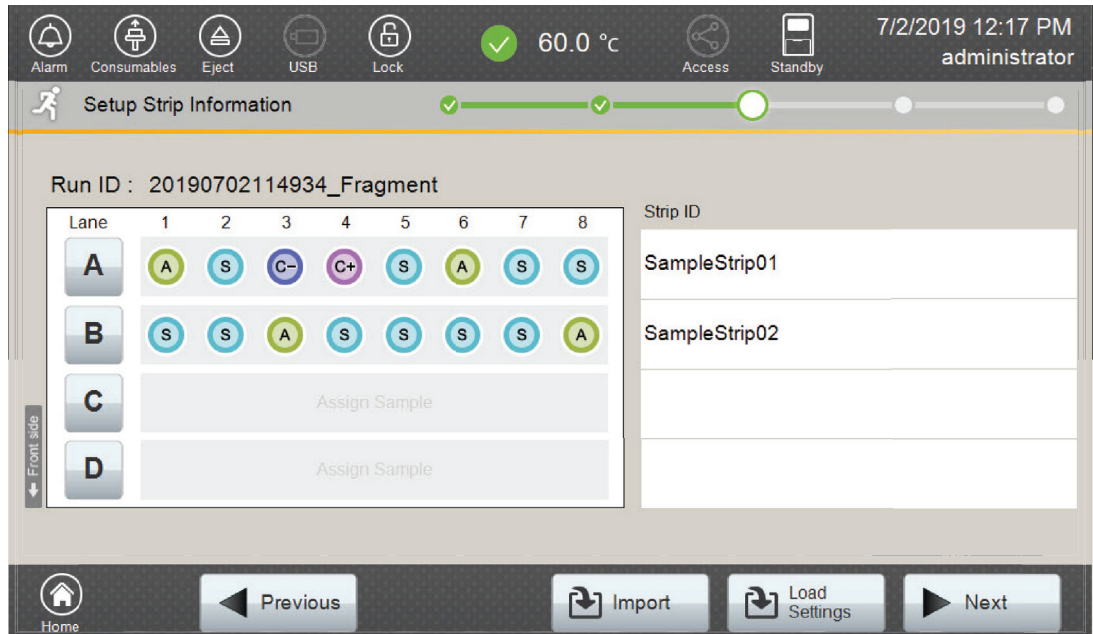

Figure 18. Completed 'Setup Strip Information' screen.
13. After all the required lanes have been set up, select **Next** on the 'Setup Strip Information' screen to load the sample cartridge (Figure 18).